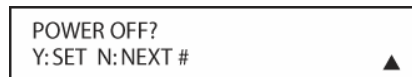

Figure 130
9. After you press and release the number key, watch the device being programmed to see whether it turns off. As shown in the instructions that will appear on the next menu screen (**Figure 130**), if your device has turned off, press the **Set Button [triangle 15]**, and then skip to Step 10. If the unit does not turn off, proceed to the next step.